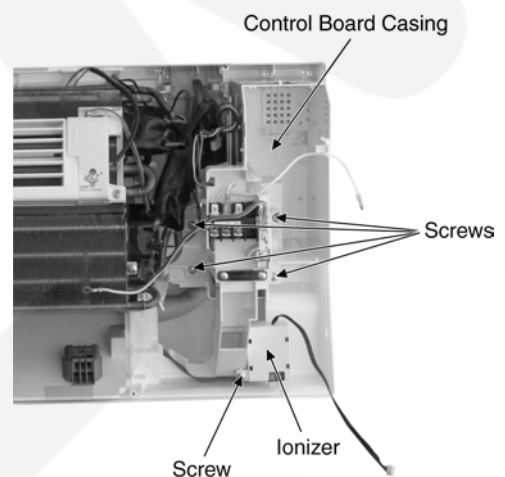

Fig. 6
- Release the Ionizer by screw. (Fig. 6)
- Release the 4 screws Control Board Casing. (Fig. 6)